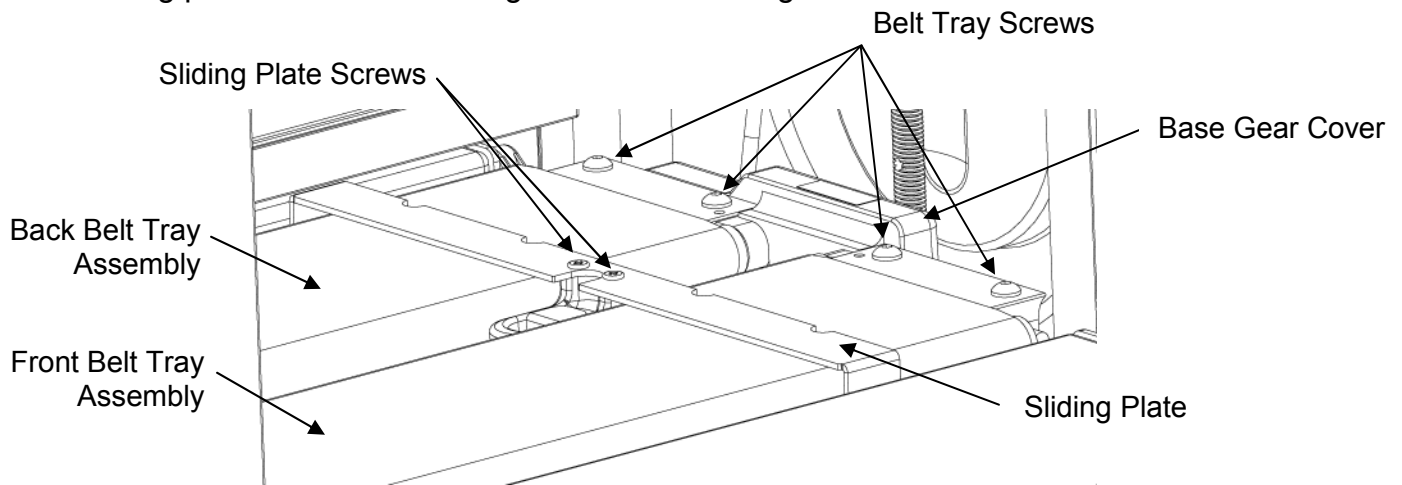

FIGURE 4: VIEW OF THE SLIDING PLATE AND BELT TRAY SCREWS (RIGHT SIDE)
- 7. Remove the base gear cover.** Gently squeeze the base gear cover shown in Figure 4, and pull straight up to remove. The base gear cover has been caulked around its edge with silicone to keep dust out. This caulking will pull away from the base when the cover is removed.
- 8. Remove the belt tray screws.** Use the 4mm Allen wrench to remove the eight screws holding the front and back belt trays in place (See Figures 4 & 5).